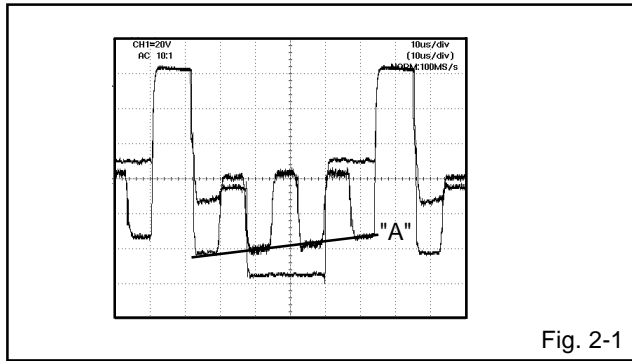

Fig. 2-1
4. Press the VOL. UP/DOWN button on the remote control until the section "A" becomes as straight line. (Refer to Fig. 2-1)